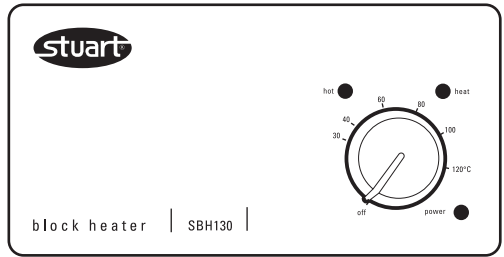

Figure 4 - analogue controls
- The “power” light will illuminate - see figure 4.
- The desired temperature may be set using the control knob labeled “heat” on the right hand side of the control panel – see figure 4. If turned to the position labeled “off” the heater will be switched off. Otherwise the scale around the knob will give guidance as to the set temperature.
- The instrument will now begin to heat the aluminium blocks to this temperature and the light labeled “heat” on the control panel will illuminate – see figure 4.
- If the temperature of the blocks exceeds 50°C the red light labeled “hot” will begin to flash to warn that the blocks are too hot to touch – see figure 4. This will continue even if the heater is turned off using the knob on the control panel so long as the instrument remains connected to the electricity supply and turned on with the switch at the rear.